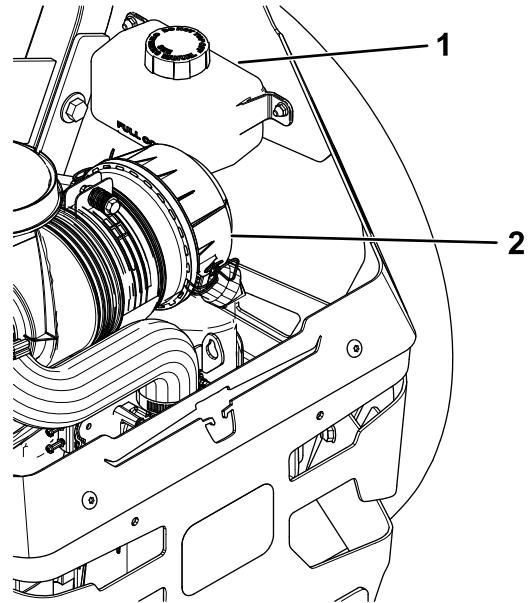

Figure 68
2. Check expansion reservoir and if necessary add Toro® HYPR-OIL™ 500 hydraulic fluid to the FULL COLD line (Figure 68).